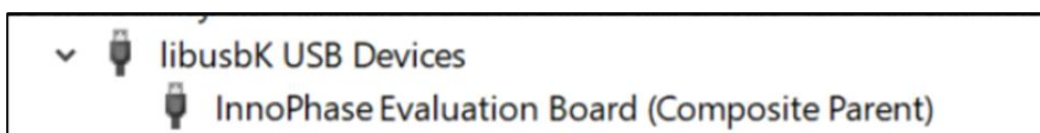

Figure 5: INP3000 board under “libusbk USB Devices” driver
- a. Device found: EVK serial number field in the Download Tool GUI is populated with appropriated INP3000 or FTDI interface serial number. In this case, ignore the error message “Driver Installation Failed” and continue using the tool. To avoid this from happening repeatedly, update the driver for IN3000 Board to “InnoPhase Evaluation Board” driver, from device manager (as shown in Figure 4). Then, ensure the INP3000 Board is detected under “libusbK USB Devices” in device manager (as shown in Figure 5).
- b. No device found: Manually install the driver using instructions from section: 2.5 Manual installation instructions for libusbK driver and ensure that INP3000 Board is detected under libusbK USB Devices driver (as shown in Figure 5).